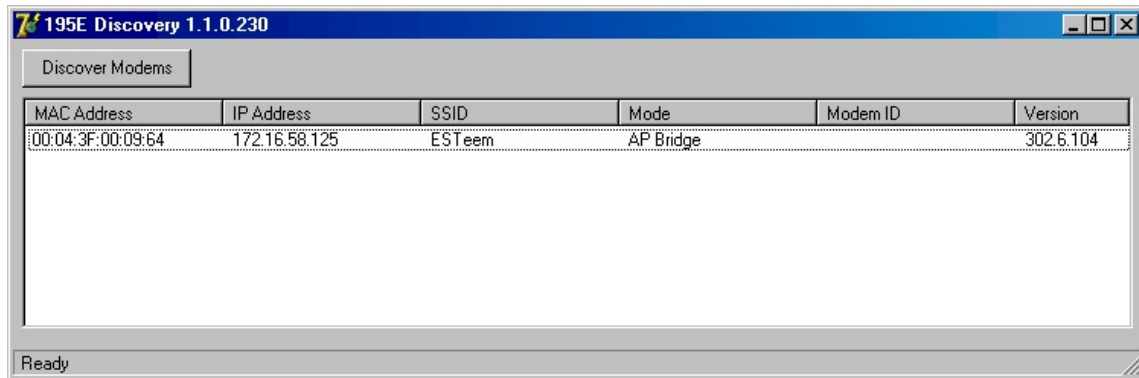

Figure 7: Discovery Program Main Page
4. Connect the Model 195Ep to your computer either direct to the Ethernet card or through a HUB/Switch using a CAT-5e Ethernet cable. The Ethernet port on the 195Ep supports Auto-Negotiation so either a patch cable or crossover cable will work. Open the ESTeem Discovery Program and press the Discover Modems button. The Model 195Ep will be displayed in the program by the Ethernet MAC address and Current IP Address (Figure 7).